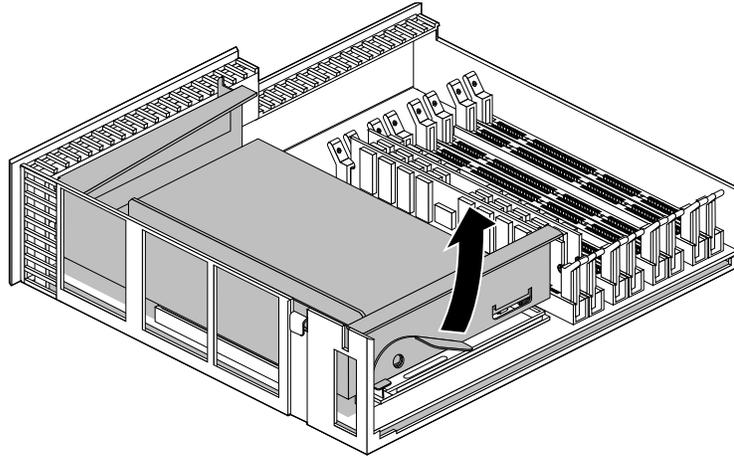

Figure 1-6 Releasing the PCI Tray
2. Release the PCI tray by pushing up the lever on the side (Figure 1-6). The tray pops up.